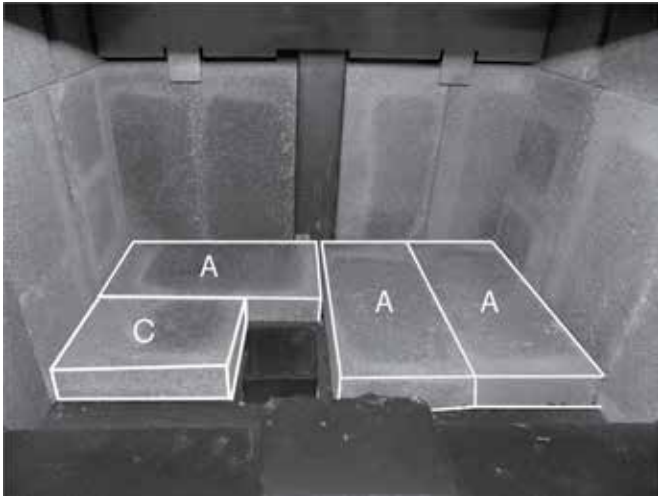

Figure 20: Floor brick in place.
5. Place two "A" firebricks on the firebox floor as shown. Place a third "A" firebrick against the rear wall as shown in (Figure 20).
6. Place the "C" firebrick so that it sits beside the ash dump, against the left-hand side wall and the "A" firebrick located directly behind the ash dump (Figure 20).